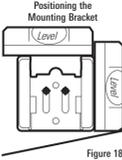
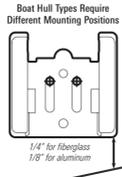

Figure 18
Figure 19
2. Hold the mounting bracket against the transom of the boat in the location you have selected (Figure 18). Align the bracket horizontally, using the level; make sure that the lower corner of the bracket does not protrude past the bottom of the hull, and there is at least 1/4" clearance between the bottom of the bracket and the bottom of the transom for fiberglass boats, and 1/8" clearance for aluminum boats (Figure 19).